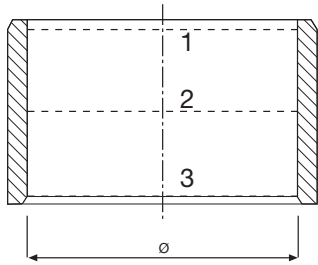

Figure 3: The position of the measurement planes (x=.02 inches)
- With the 3 point probe, the inner diameter of the bearing after pressfit must lie within the prescribed tolerance on the measurement plane, See Figure 3.